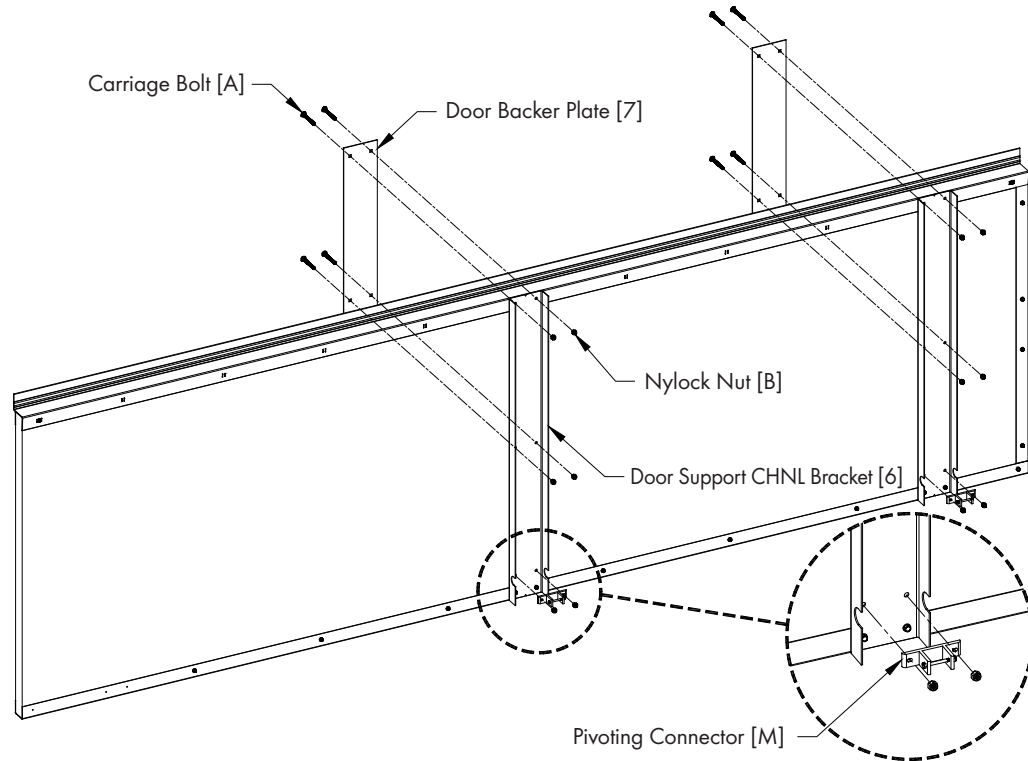

Figure 17
Locate Door Backer Plate [7] and fasten to back of Tunnel Door in line with Door Support CHNL Bracket [6] using (4) Carriage Bolts [H] and Nylock Nuts [D] in the upper (4) holes for the center and right Brackets. See Figure 17. Secure the Pivoting Connector [M] to the Bottom Pair of holes in Door Support CHNL Bracket using (2) Carriage Bolts [H] and Nylock Nuts [D]. See Figure 17.